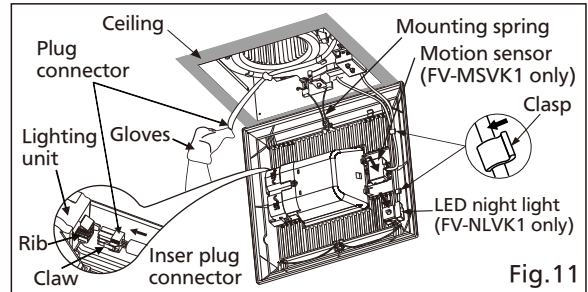

Fig.11
13. Insert the grille mounting spring on the wiring side into the slot and insert the plug connector into the housing of the lighting unit. (Fig.11 of page 10)
14. Plug in the specified devices as your choice (refer to installation on page 8). Insert the motion sensor (FV-MSVK1 only) or LED night light (FV-NLVK1 only) into slot of the grille. Fix the lead wire into the clasp (Fig.11).